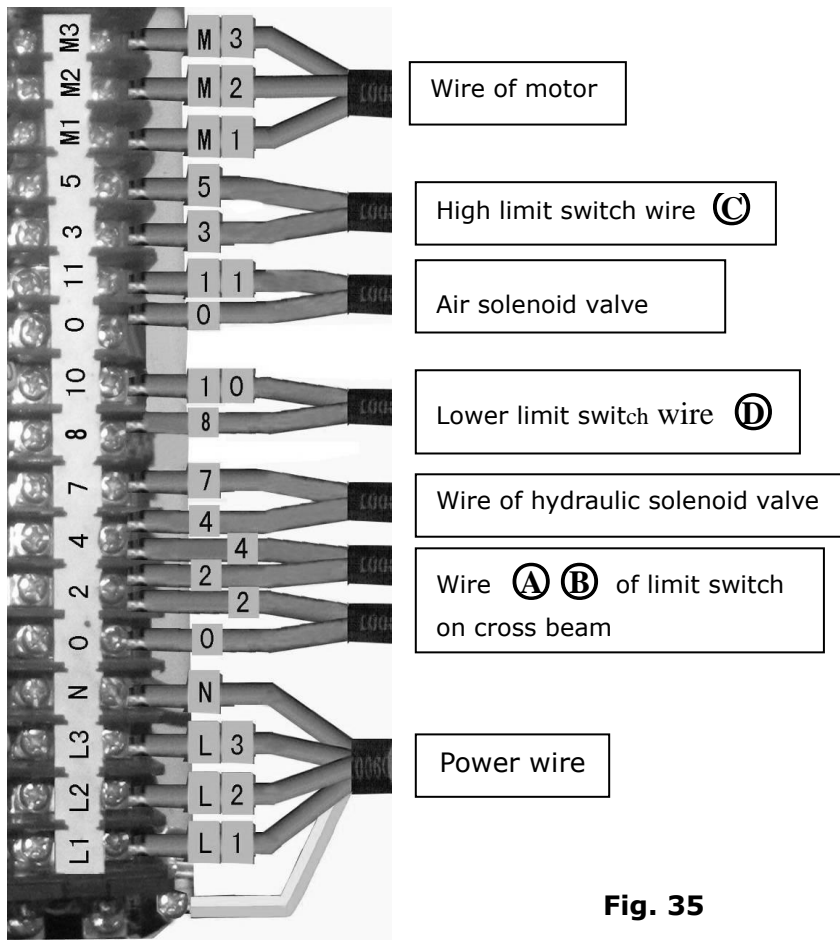

Fig. 35
6.1 Wire connection diagram in the control box (See Fig. 35).